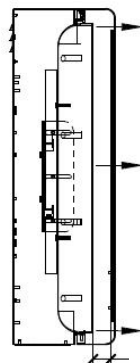

Figure 6
**STEP 13:** A gap of 15mm must exist between the air curtain and the enclosure window, any less and you risk insufficient cooling to keep the display working (Figure6)